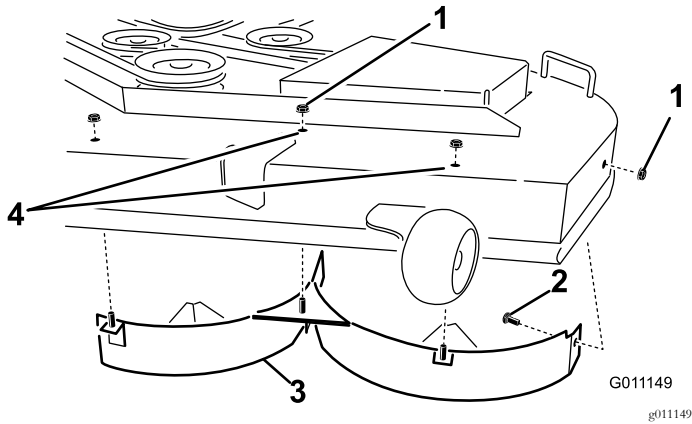

Figure 30
4. Remove the 2 locknuts (5/16 inch) secured to the welded posts of the left baffle on the top of the mower deck at the center and left of center positions (Figure 30).
6. Remove the left baffle from the mower deck as shown in Figure 30.